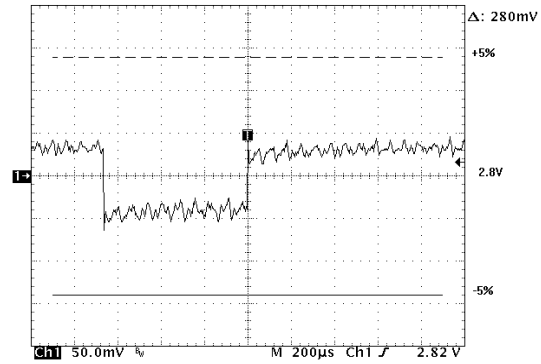
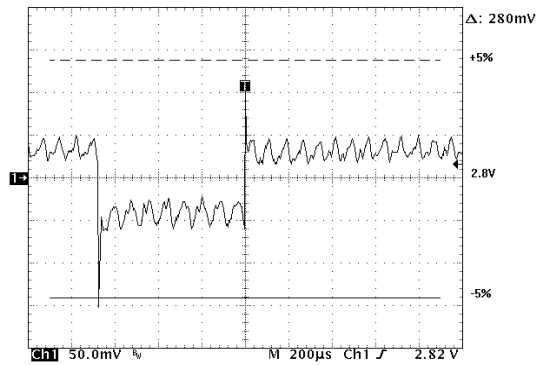

Figure 4. RC5050 VRM Transient Response (Vout=2.8V@IL=0.5-14A) with Intel Recommended 300µF Surface Mount Capacitor by the CPU Socket
Figure 5. RC5050 VRM Transient Response (Vout=2.5V@IL=0.5-14A) without Intel Recommended 300µF Surface Mount Capacitor by the CPU Socket
1. In order to improve the transient analysis performance, one should add an extra 100-300µF capacitor right by the CPU socket (Figure 4). If the same capacitor was added on the VRM then there would be no improvement in the transient data due to series board resistance (Figure 5).